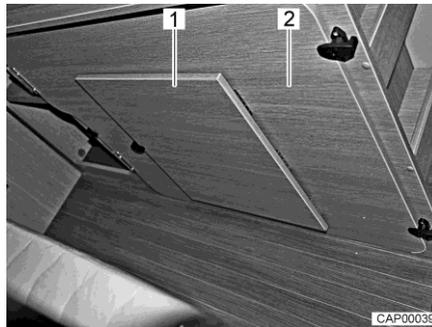

Fig. 75 Removable board on the right-hand bedding box
- Remove additional removable board (Fig. 75,2) from the right-hand bedding box in the rear.
- Fold footrest (Fig. 75,1) out on the removable board.